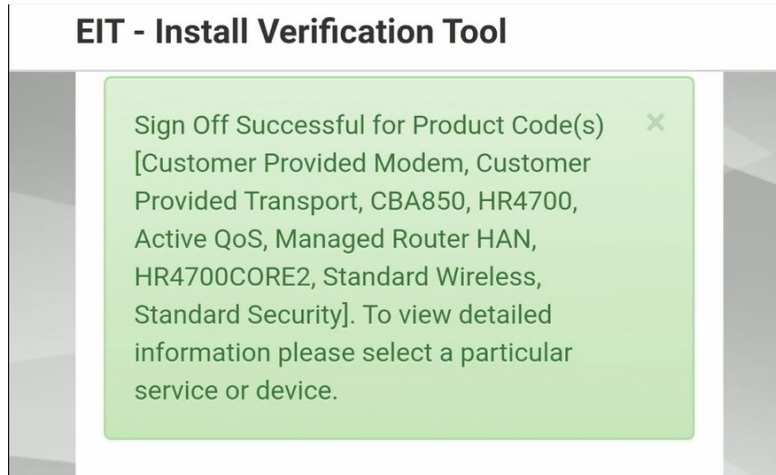
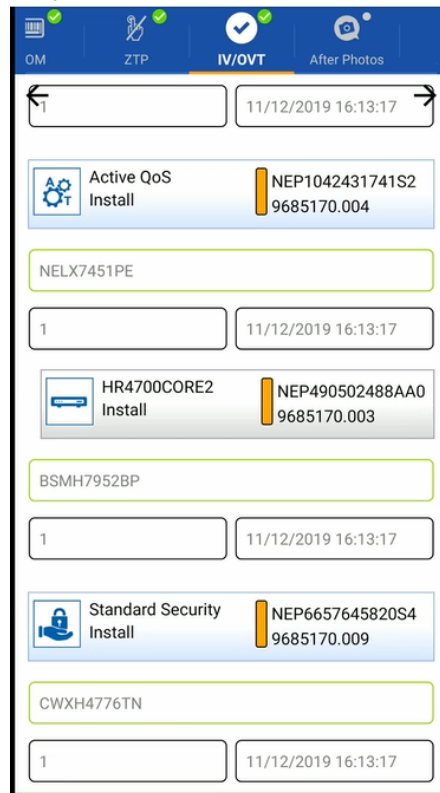

Figure 81: IVT signoff
Figure 82: IVT signoff populated
6. Tap **Sign Off** (Figure 81) to generate signoff codes for each product, and verify the signoff was successful (Figure 82). Return to OASIS.